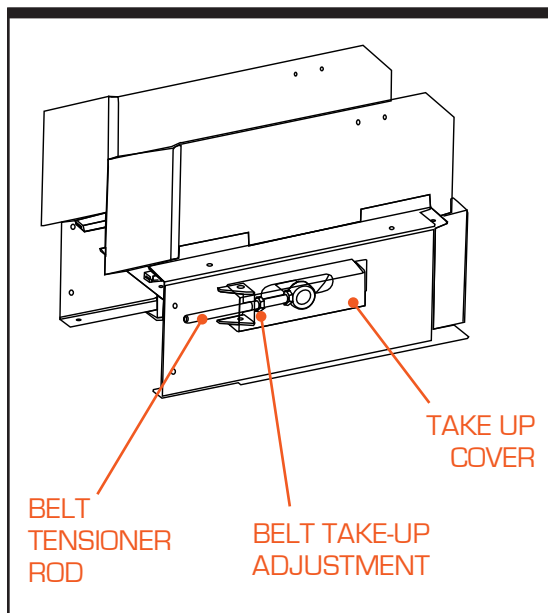

Figure 3-6. Tracking Adjustment of Chain
**Step 12. Adjust Tracking.** Turn the prefeeder on and set to a slow speed to observe tracking of the chain. Run a new chain at least several complete revolutions before adjusting the tracking. If the chain pulls to one side or if the chain moves from side to side, adjust the take up rod on the side to which the chain is pulling (see Figure 3-6). Tensioner brackets (take up pulleys) are located on either side of the prefeeder's base.
**Step 3. Tension Chain.** Use the take up brackets on the base of the prefeeder (see Figure 3-6 to remove excessive slack in the chain before beginning tracking.)
**Step 5. Adjust Tracking Again.** Run the prefeeder for at least five (5) minutes. Continue to adjust tracking until the prefeeder runs consistently without tracking problems.